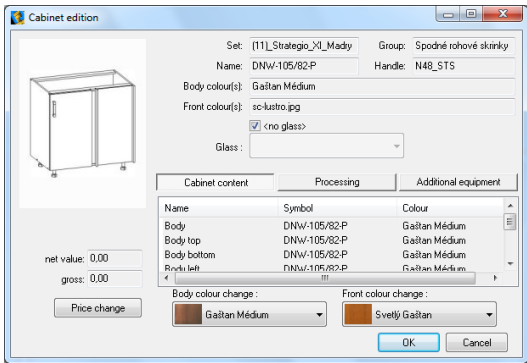

Fig. 302 – editing a cabinet
- **Modify element** – icon  (Fig. 302)